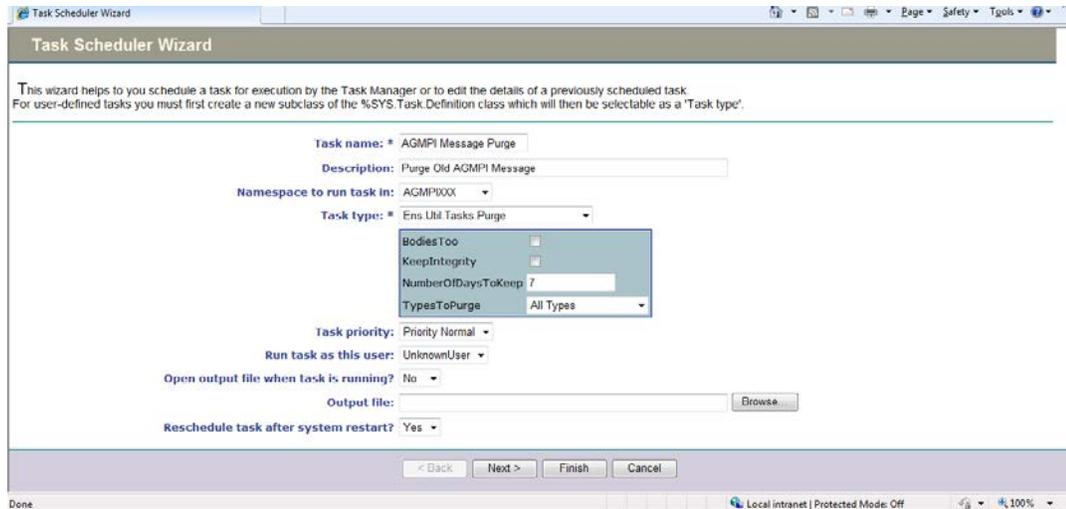

Figure 6-3: Task Scheduler Wizard page
2. Click the New Task option to start the Task Scheduler Wizard, as shown in Figure 6-3.